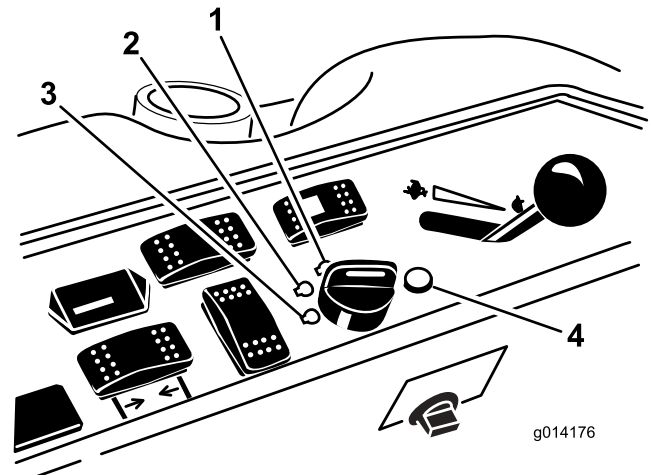

**Figure 13**
4. Move the PTO (power take off) switch to the off position (Figure 13).
5. Move the throttle lever midway between the Fast and Slow positions (Figure 13).